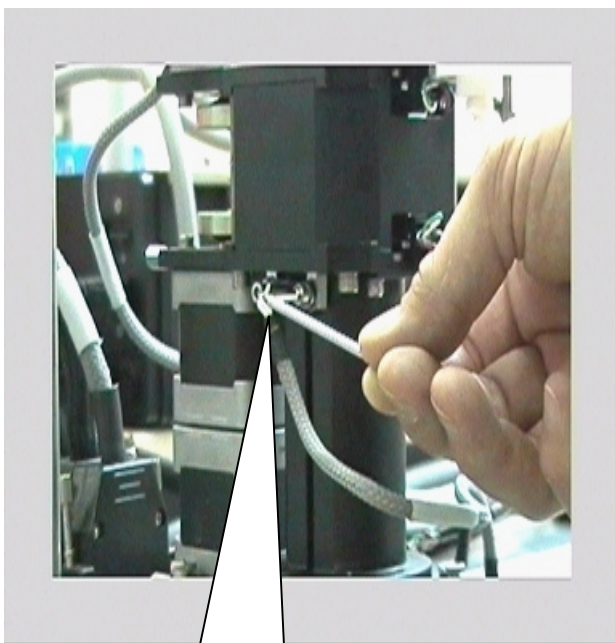

Fig. 7
- b) Remove the screws which fasten the opto sensor support and take out the entire assembly (Fig.7).